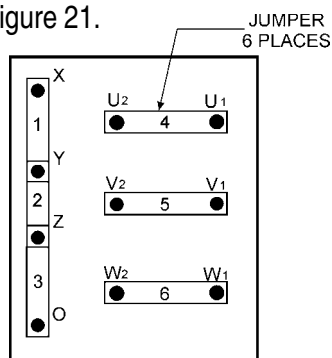

Figure 21. Voltage Change-Over Board 240V Configuration
1. Jumper the voltage change-over board for 240V operation as shown in Figure 21.
1. Make sure the voltage change-over board is jumpered for 240V operation as shown in Figure 21.